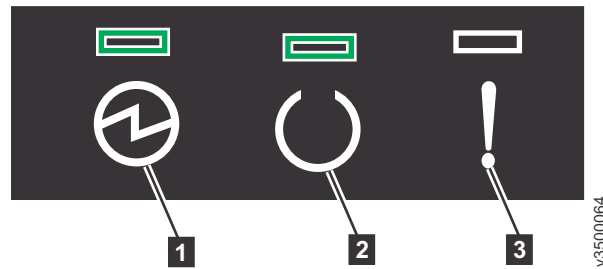

Figure 26. Node canister LEDs
2. From the rear of the control enclosure, check the LEDs on each node canister (see Figure 26 on page 29).